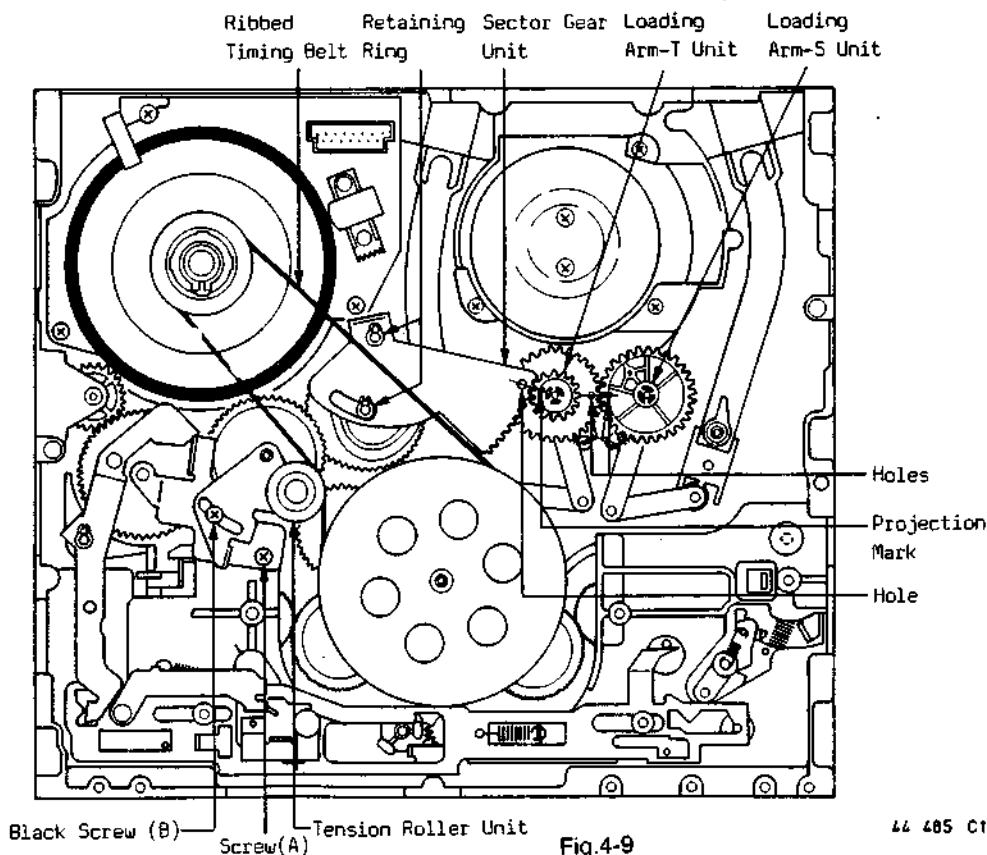

Fig. 4-9
4.6 Assembly procedures of loading gear (T), loading gear (S) sector gear and tension roller
- Set the P2 and P3 posts to unloading position, then install the loading gear (T) pos. no. 138(2) and (S) pos. no. 143(2) so that the hole of loading gear (T) is exactly in line with the hole of loading gear (S), see Fig. 4-9.
- Install sector gear pos. no. 141(2) so that the hole of sector gear is exactly in line with the projection mark on loading gear (T). Then insert the retaining rings.
- Install tension roller unit pos. no. 108(12) and SS brake unit pos. no's 105-107, then tighten the screws.